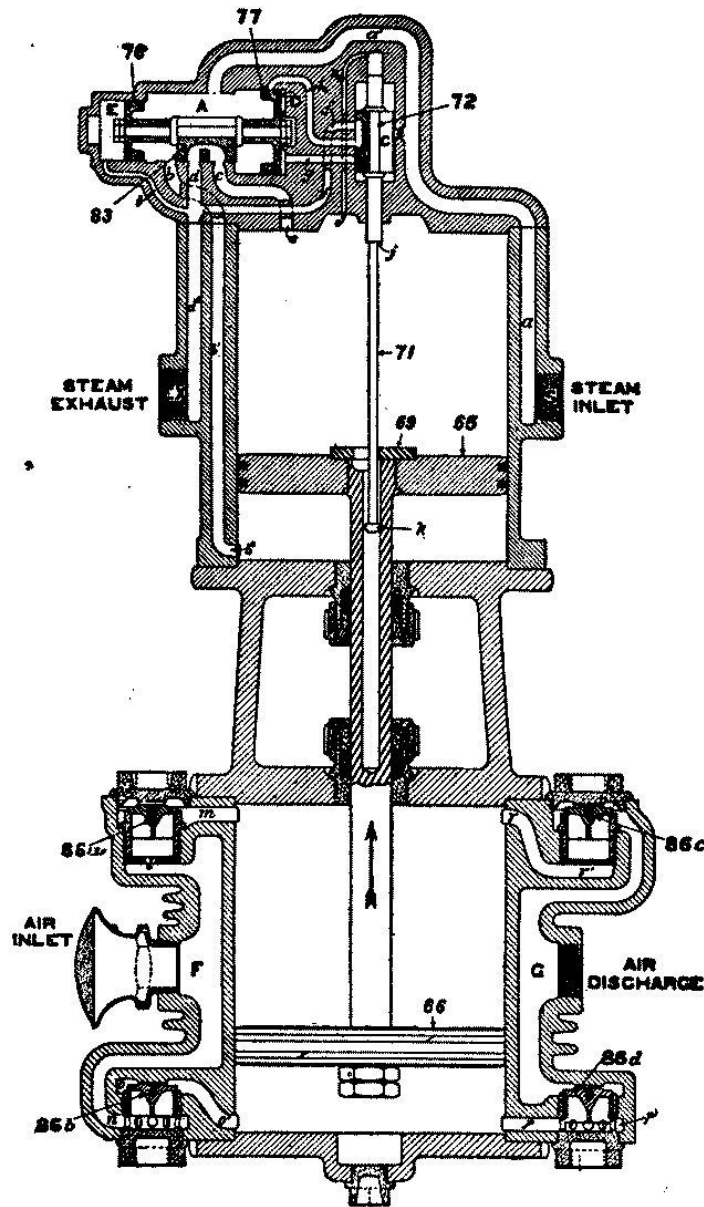
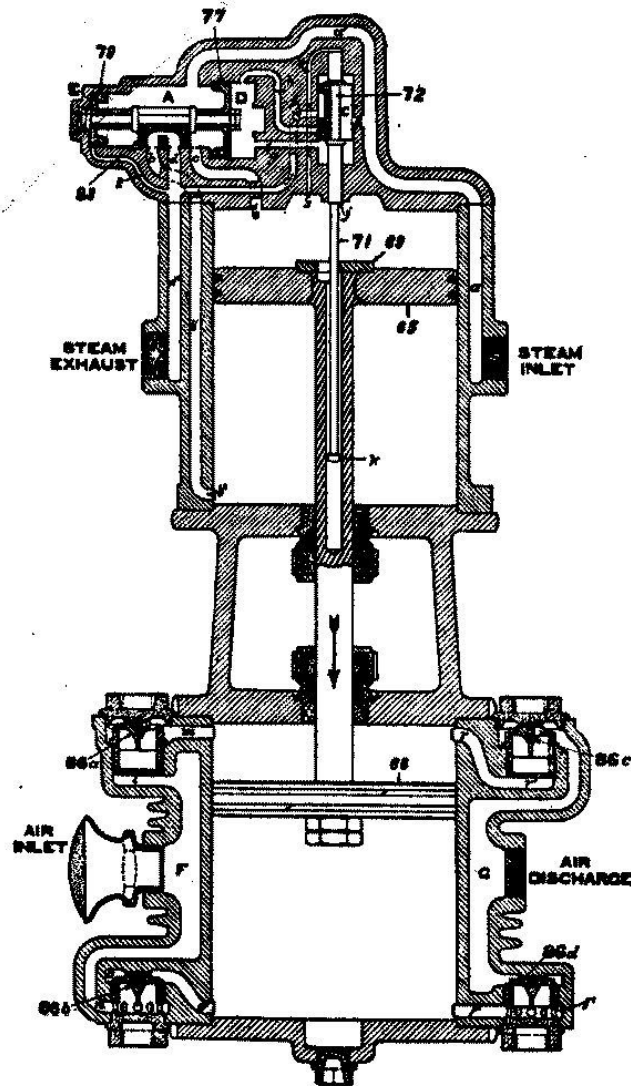

Fig. 2: Diagrammatic View, Up Stroke.
Fig. 3: Diagrammatic View, Down Stroke.
A. When steam is turned on at the boiler it flows through the steam pipe and governor, entering the compressor at the steam inlet, then through the steam passage "a" to the reversing valve chamber "C" also to the main valve chamber "A" between the differential pistons 77 and 79. The area of the piston at the right being greater than the one at the left, the main valve is moved to the right, (See Fig. 2) admitting steam to port "b" which leads to the lower end of the steam cylinder; steam is now free to flow under the main piston, forcing it upward. When the piston has almost completed its upward stroke, the reversing plate 69 on top of the piston 65 engages a shoulder on the reversing rod 71, moving the rod and reversing valve 72 upward (See Fig. 3). The upward movement of the reversing valve closes the ports "f" and "h" and opens port "g"; thus permitting steam to enter the chamber at the right of the large piston 77, balancing the pressure on this piston, and the pressure acting on the right side of the small piston 79—the chamber at the left being open to the exhaust—will force the main valve to the left.
A. The movement of the steam piston 65 is imparted to the air piston 66 by means of the piston rod. When the air piston moves up, a partial vacuum is formed below it, and air from the atmosphere will enter through passage "F" thence through passage "n" to the under side of receiving valve 86b (see Fig. 2), lifting this valve from its seat, and will fill the cylinder with air at about atmosphere pressure.
In the meantime the air above the piston, being compressed, will hold the upper receiving valve 86a to its seat, and when the pressure is slightly greater than that in the main reservoir, this pressure acting under the upper discharge valve 86c, will lift this valve from its seat and now the air will be free to flow through passage "G" to the main reservoir connection. On the down stroke the action is similar, air is taken in through the upper receiving valve 86a, while the air below the piston is being compressed and forced past the lower discharge valve 86d, to the main reservoir. (See Fig. 3.)